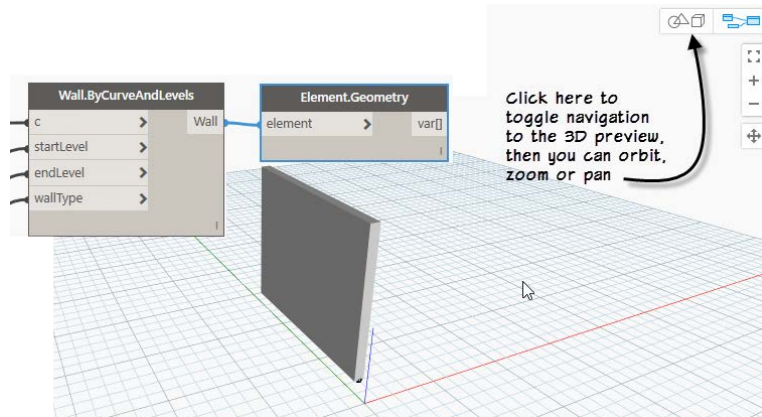

Figure 23
29. Wire the output of the **Wall** node into this node (see Figure 23).